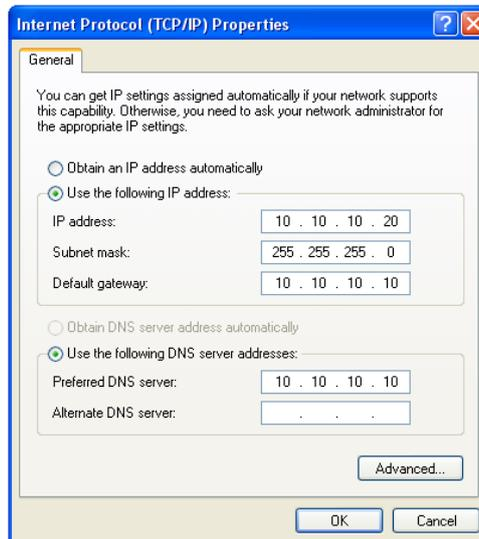

Figure 23: Internet Protocol (TCP/IP) Properties dialog box showing the recommended IP settings.
6. The *Internet Protocol (TCP/IP) Properties* dialog box, change the settings to match those shown in Figure 23, and then click “OK”